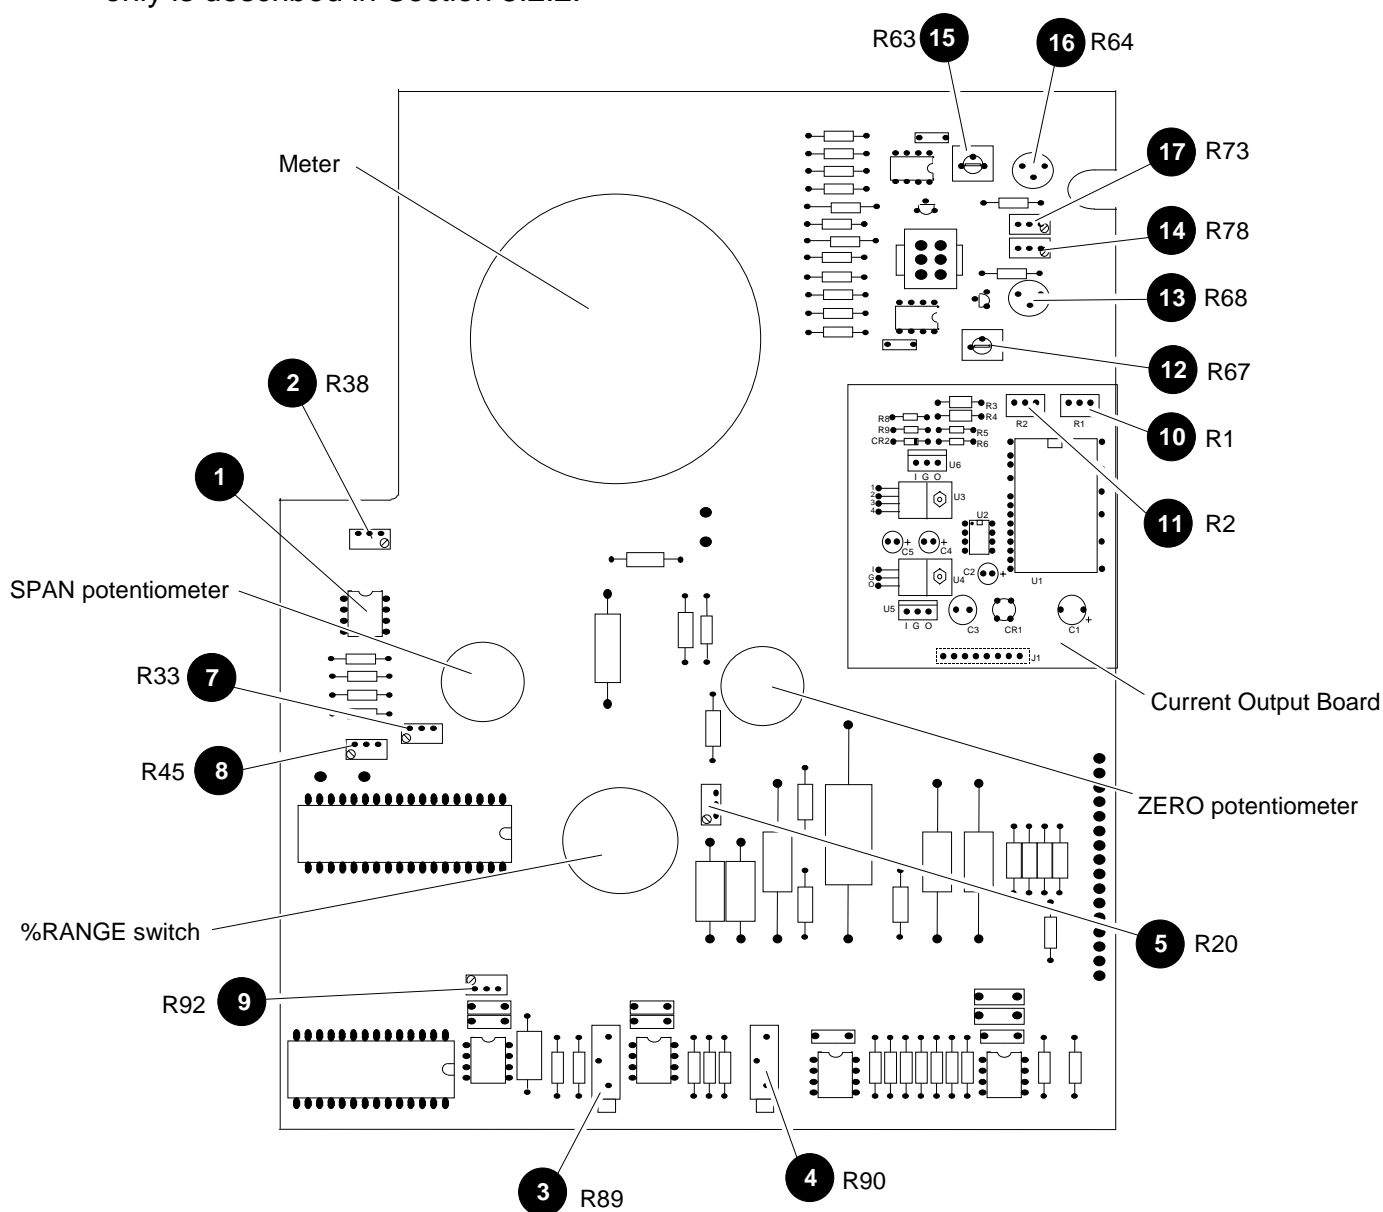

FIGURE 3-1. CONTROL BOARD - ADJUSTMENT LOCATIONS
- d. If previous reading was obtained on a recorder, set Meter Adjustment R38, see Figure 3-1, so that meter reading agrees with recorder setting.
- a. If the most-sensitive range is zero-suppressed, obtain the correct reading by adjustment of internal Zero Suppression Potentiometer R45, see Figure 3-1.